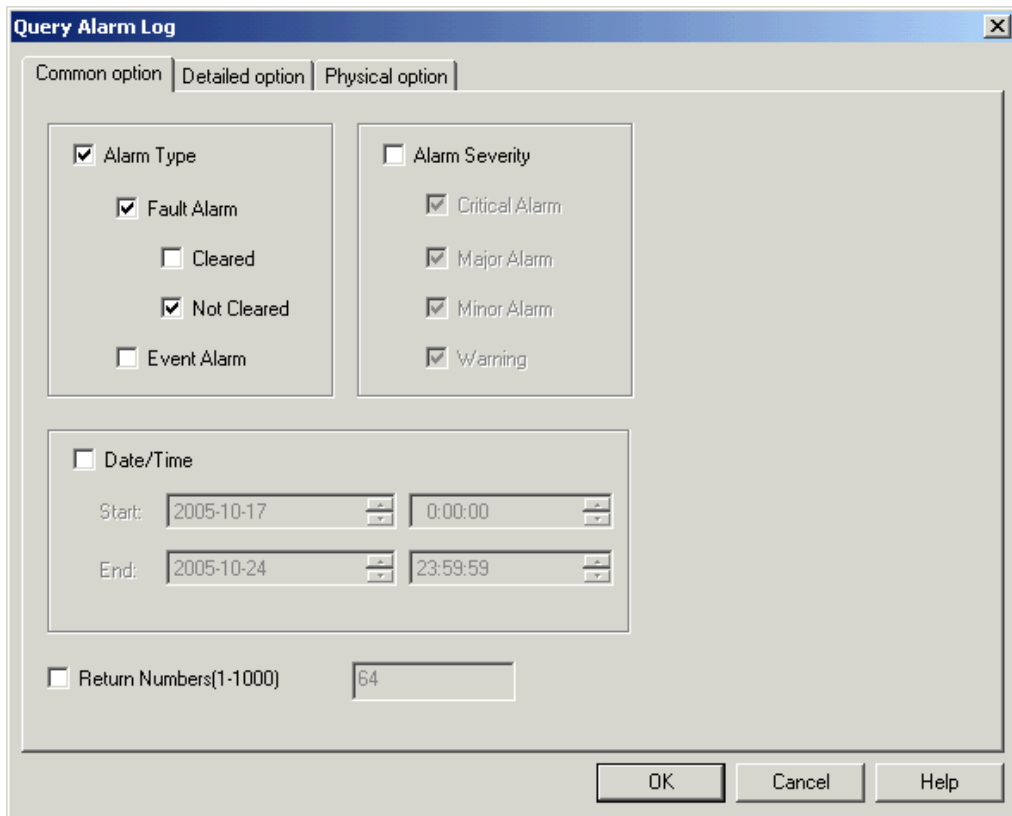

Figure 5-7 Query Alarm Log dialog box
- 1) In the NodeB alarm management system, select **Query -> Query Alarm Log** or click the shortcut icon  to display the **Query Alarm Log** dialog box, as shown in Figure 5-7.